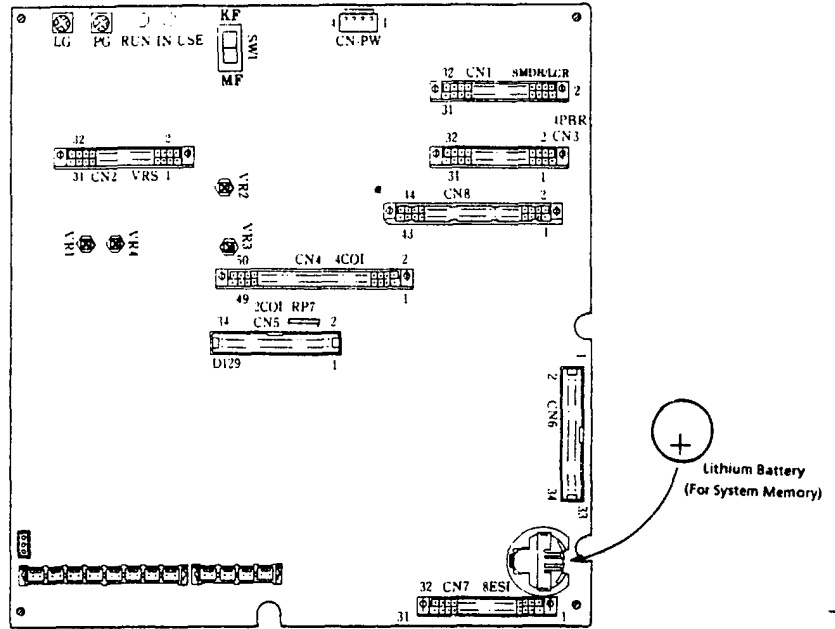

Figure 1-16 Lithium Battery Location
1. Locate and remove the lithium battery in the upper right-hand corner of the KSU. (Refer to Figure 1-16 - Lithium Battery Location.)